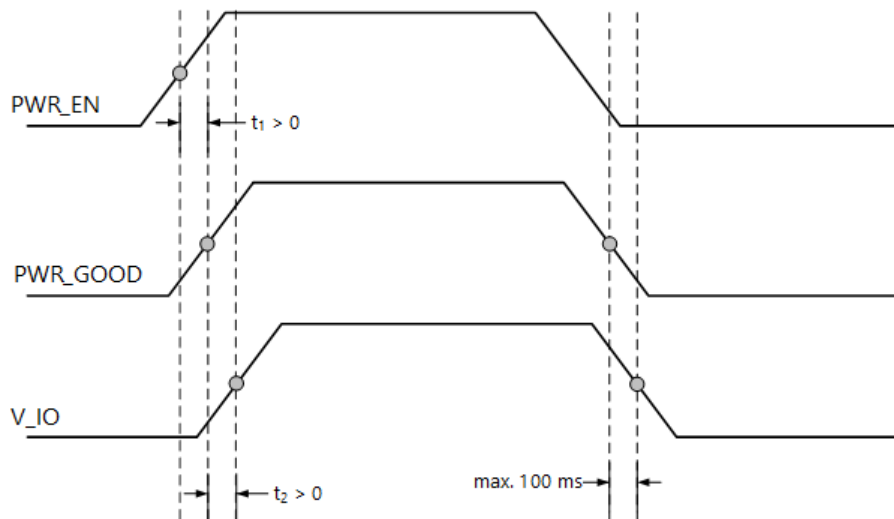

Figure 10: Power Sequence - V_IO in Relation with PWR_GOOD and PWR_EN Signals
Figure 10 illustrates the requirements of the V_IO power sequence. Do not power the V_IO pins when PWR_GOOD and PWR_EN signals are not active. If the module is not powered, make sure that the V_IO voltages are disabled, for example, by using a switch that uses PWR_GOOD as enable signal on the base board.
- Follow the power sequence diagram shown in Figure 10. This ensures that the I/Os are tri-stated at power-on and power-off.